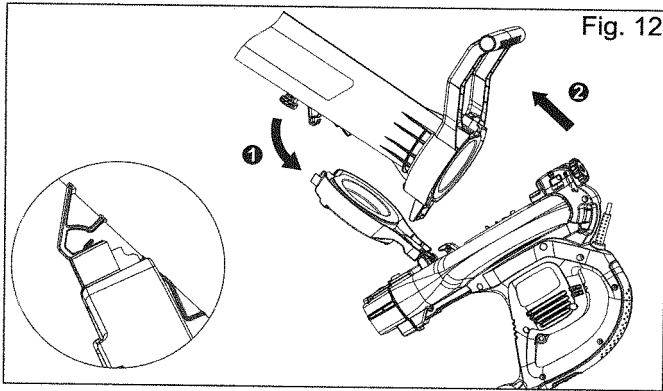

Fig. 12
2. To remove the vacuum/mulcher tube assembly, release the inter cover from the hook of the tube, rotate the lock knob to unlock, then remove the tube assembly from its housing (Fig. 12).